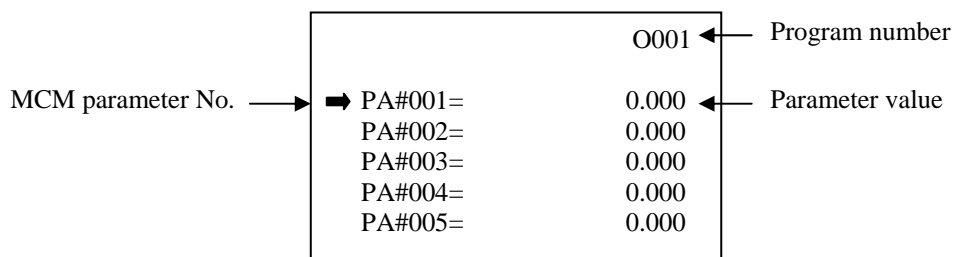

Fig 7.1
1. Press RESET. Press the blank key twice in 0.5 seconds to get in MCM mode. The data of MCM parameter #1~#5 shows up on the LCD screen as shown in Fig 7.1.